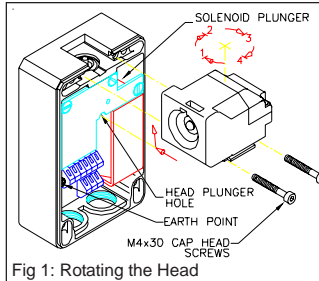

Fig 1: Rotating the Head
3. Remove the Key assembly from the unit by depressing the Solenoid Plunger (see fig 1) and rotating the handle 90° anti-clockwise.
5. The Locking Head may be rotated in increments of 90° to suit the installation. If the head is to be repositioned, refer to fig 1 and continue.
- ii. Depress the solenoid plunger and hold against the spring pressure. Insert the electrical screwdriver in the Head Plunger Hole and hold the head plunger against spring pressure (See arrows on fig 1).